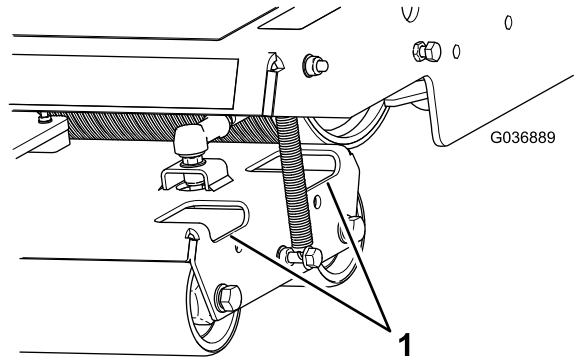

Figure 39
2. Clean dirt and debris from the rollers as needed by spraying water through the holes in the roller housings (Figure 39).